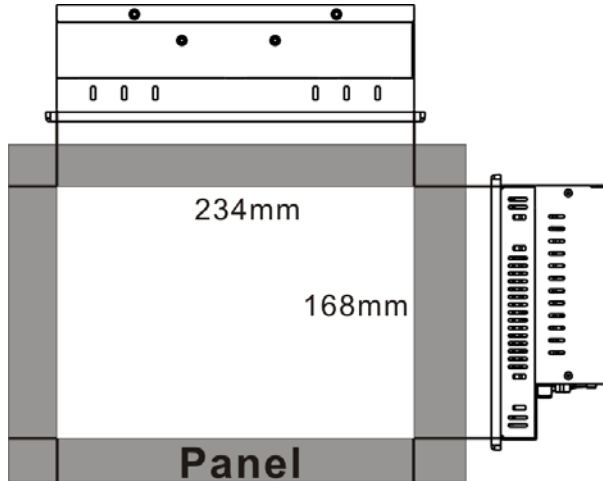
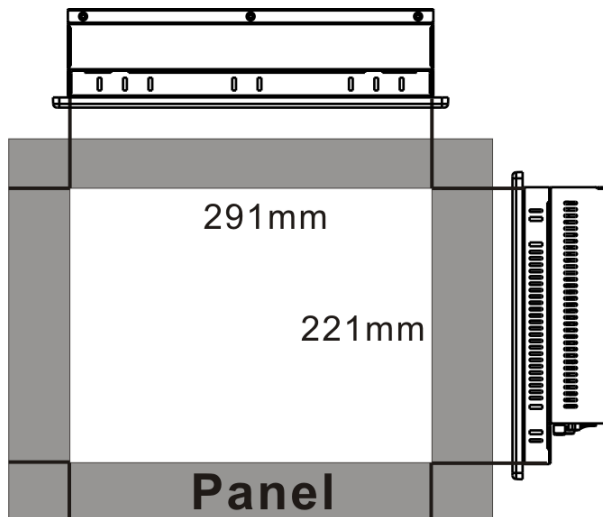

Figure 3-23: Suggested Panel Cut Out Size for 2901230
Figure 3-24: Suggested Panel Cut Out Size for 2901240
- Step 2:** Cut out a section from the panel that corresponds to the dimensions of the 2901230/2901240 flat panel PC chassis. The panel section that is cut out must be smaller than the size of the aluminum frame that surrounds the TFT LCD panel but just large enough for the chassis to fit through. Refer to **Figure 3-23** and **Figure 3-24** for the suggested cut out size.